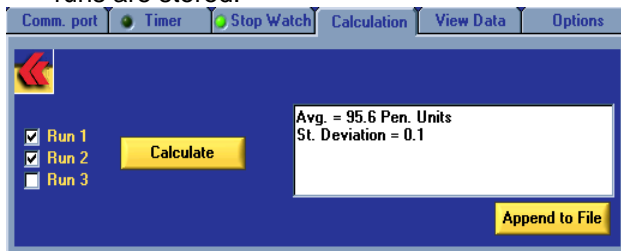

Figure 6: Calculation Tab
- 6. Calculation Tab.** This feature, shown in Figure 6, allows you to calculate the average and the standard deviation of up to three runs present on the main screen. This information can be useful when determining repeatability according to the particular test method being conducted. Click on the "Append to File" button to add these calculations to the data file where the three runs are stored.